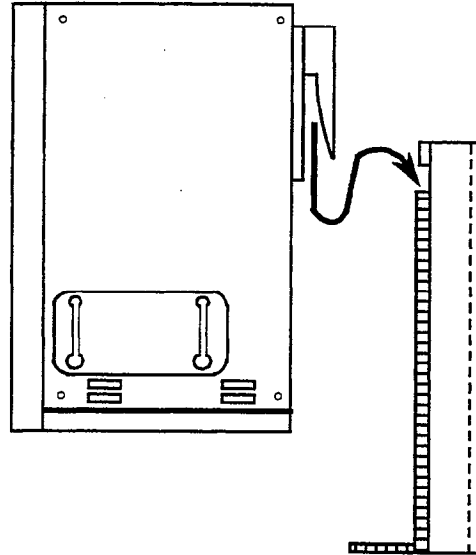

Figure 3-11 Attaching the Level II Basic KSU to the Wall Mount Bracket
2. Holding the Basic ESF-SB-10 KSU, lower the two hooks that protrude from the rear of the KSU over the wall mount bracket. Refer to Figure 3-11 - Attaching the Level II Basic KSU to the Wall Mount Bracket.